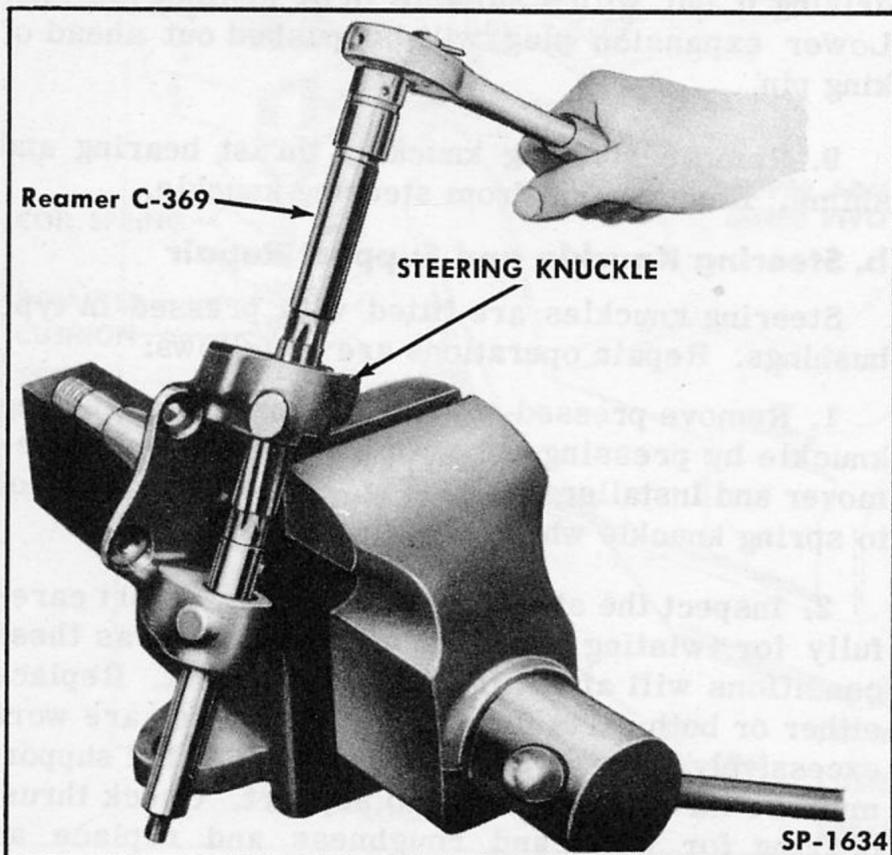

Fig. 165—Reaming Steering Knuckle Bushings
3. Install bushings in steering knuckle, using King Pin Bushing Remover and Installer KF-32. Bushings should be flush with inner faces of knuckle which is toward support. NOTE: Oil hole in bushing must align with hole in knuckle. Line ream bushings to .796 - .797 inch inside diameter using King Pin Bushing Reamer C-369 (Fig. 165).